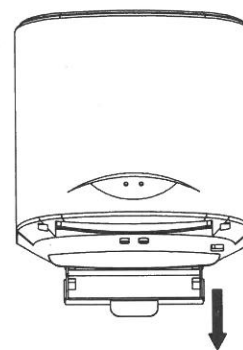

Fig 3
- Remove the filter housing from the base. See fig 3